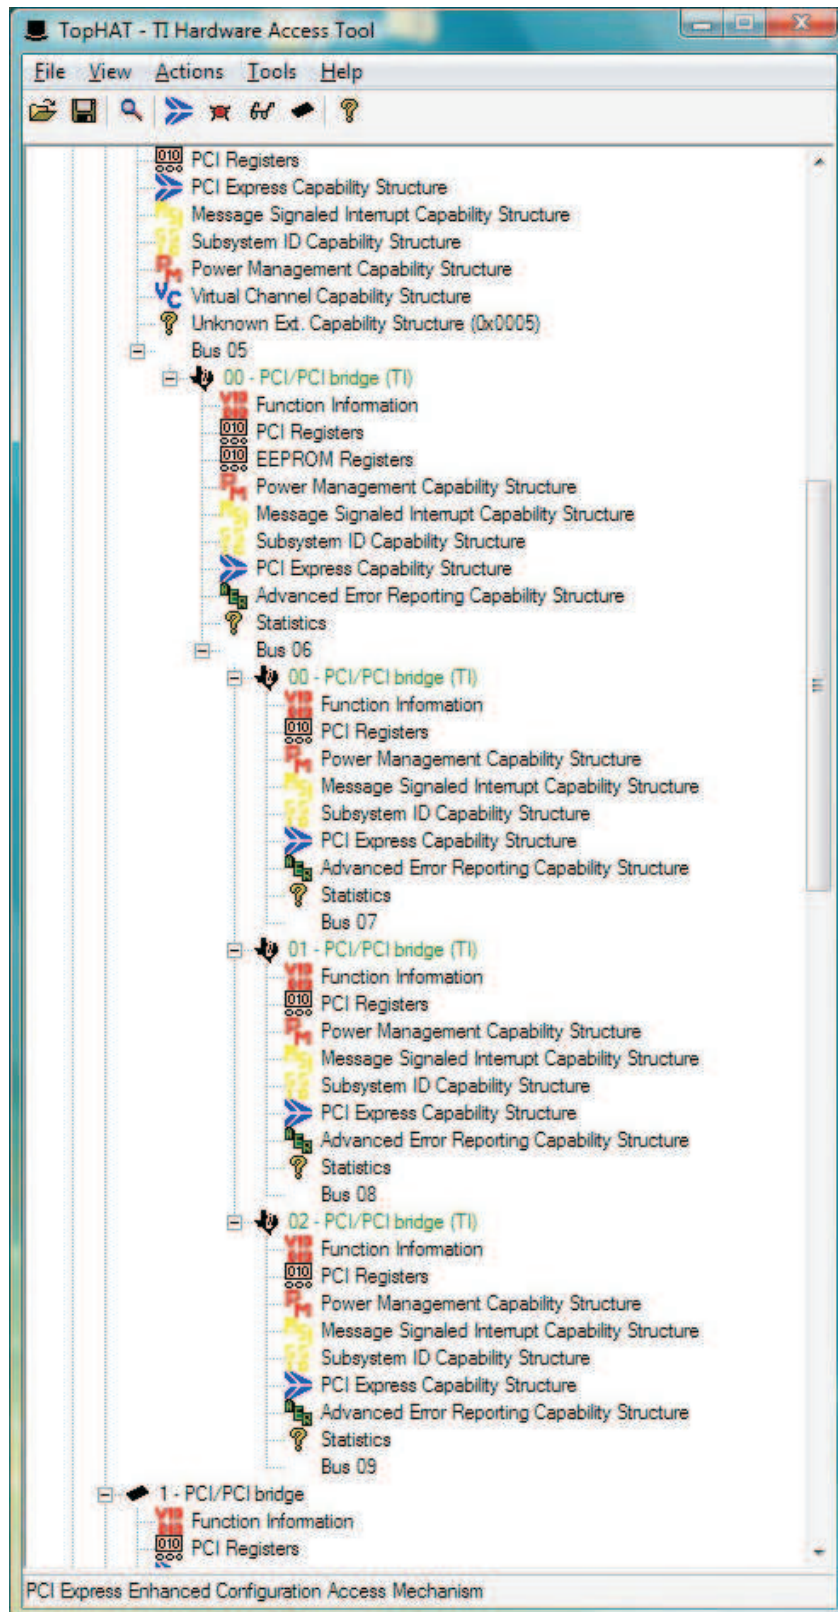

Figure 1-15. TopHAT
TopHAT is a TI-developed utility that allows a user to read or write to various registers in a PCI or PCIe device. Once the utility has been installed, double click the TopHAT icon to start the program. A dialog box opens to show the entire PCI bus hierarchy. The XIO3130 will show us as four PCI to PCI bridges. Look for the TI icon next "PCI/PCI bridge (TI)" (see Figure 1-15).